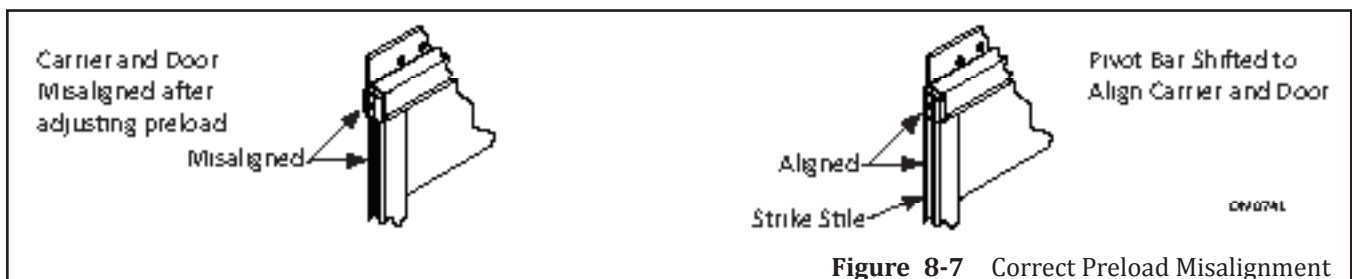

Figure 8-7 Correct Preload Misalignment
1. Loosen the Allen head fasteners in the pivot bar and slide the pivot bar in the hanger until the door and hanger are properly aligned. Please see Figure 8-7.